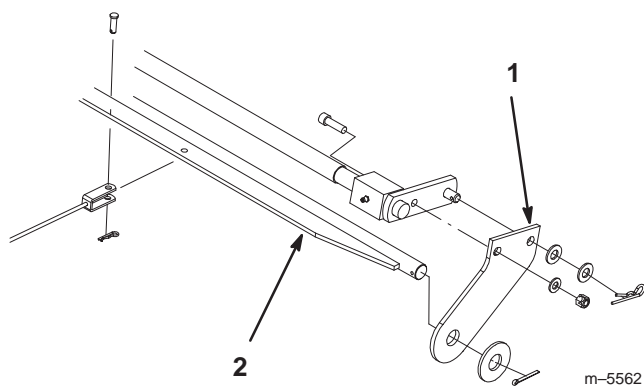

Figure 18
5. Remove the lift arms and lift shaft (Fig. 18).